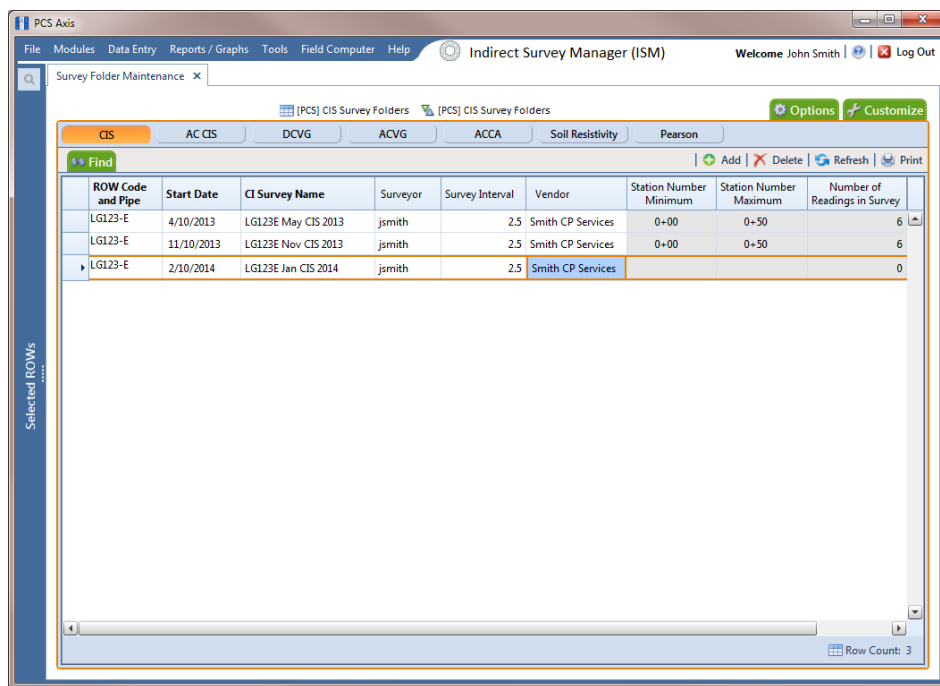

Figure 6-7. Survey Folder Maintenance
- 10 Click  **Save** to close the *Add Record* dialog box and add a row of records in the grid for the new continuous survey folder (Figure 6-7).
- 4 Click a button labeled with the type of continuous survey folder you want to delete. For example, click the **CIS** button  to delete the survey folder and associated survey readings for a close interval survey (Figure 6-7, page 190).